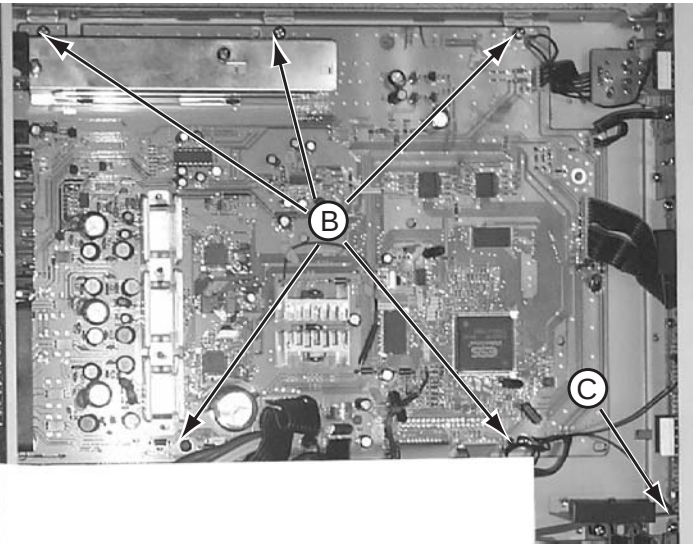

Figure 5
- 1 screw "C" on the inside as indicated in Figure 5.
- 1) Loosen 5 screws "B" on the top of main board as shown in figure 5.